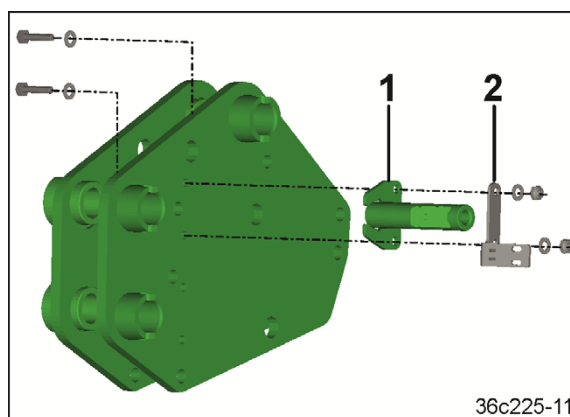

Fig. 94
2. Bolt the holder (Fig. 94/1) and sensor bracket (Fig. 94/2) onto the upper coupling point.